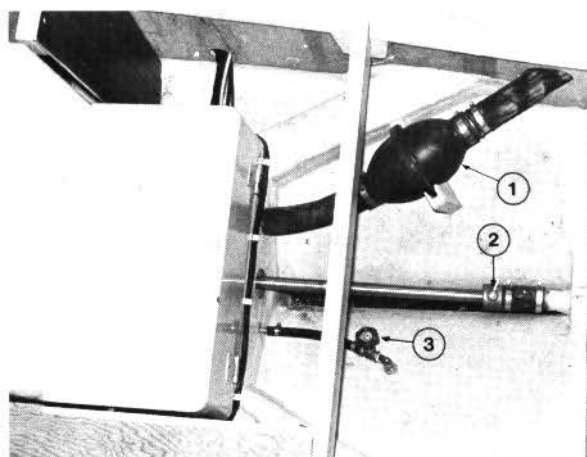

Fig. 5. Propeller shaft oil pocket and cooling water seacock
5. Check that the cooling water seacock is open (fig. 5).
8. Unscrew the plug on the propeller shaft oil pocket (fig. 5) and check that it is almost filled with grease. Fill with more grease if necessary. A soft outboard grease is most suitable. The grease is pressed directly from the tube until the oil pocket is almost full. Do not use high pressure. A grease gun must never be used as this may press out the forward sealing ring. Do not overfill the oil pocket as even screwing down the plug may exert enough pressure to push out the sealing ring.
1. After stopping the engine close the seacock on the cooling water intake, fig. 5.